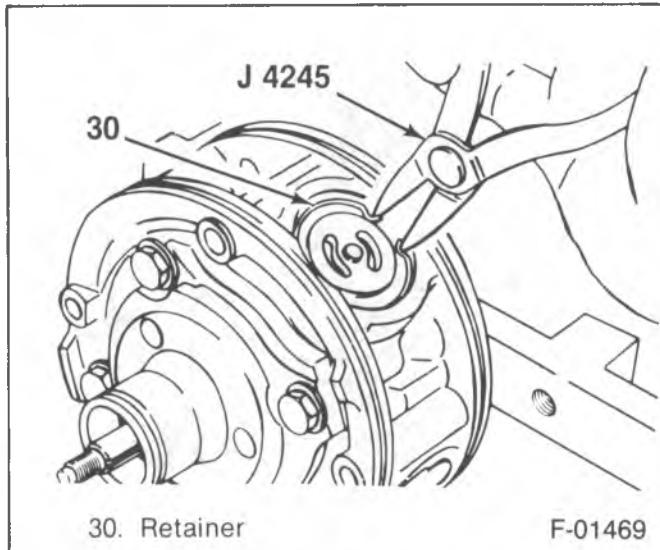

Figure 22—Replacing the Valve Plate Retainer
Remove or Disconnect (Figures 22 and 23)
1. Valve plate retainer ring using J 4245 (figure 22).
Install or Connect (Figures 22 and 23)
3. Valve plate retainer rings using J 4245 (figure 22).